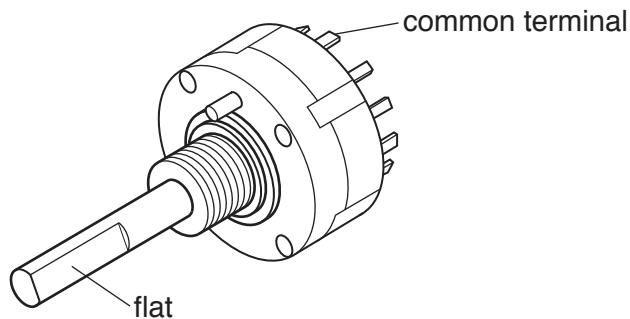

Fig. 3
- 7 Fig. 3 shows a 12-way rotary switch.